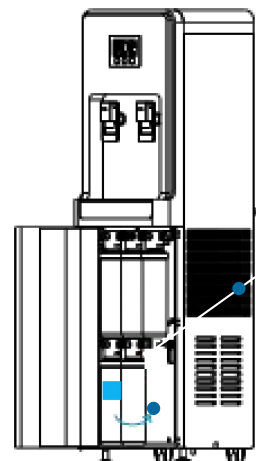

Figure 5 · Attach the filter by plugging it in and turning it, following the arrows on the filter
5. Insert the new filter in place of the original one: press it upwards and turn it clockwise to fasten it (Figure 5).